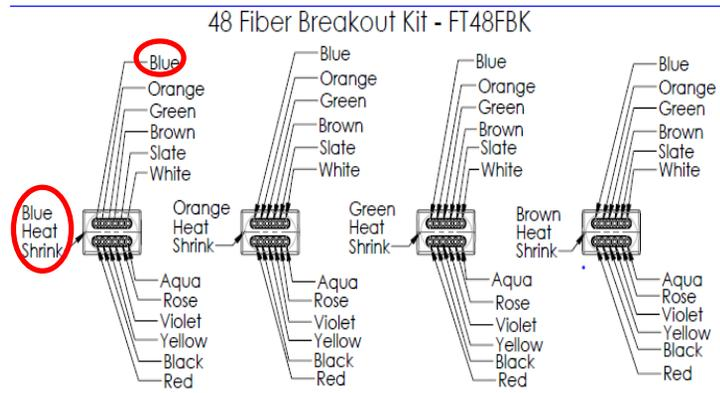

Figure 15
7.3 First separate the blue termination unit from the cassette's unit 1- 900 μm fibers. Also, separate the blue fiber from the blue nylon subunit from the termination kit that has bare fiber exposed beyond the breakout kit buffer tube. These fiber ends will be spliced together. Make sure to tape together other loose fibers in subunit groups to keep track of them as you go. See **Figure 15**.